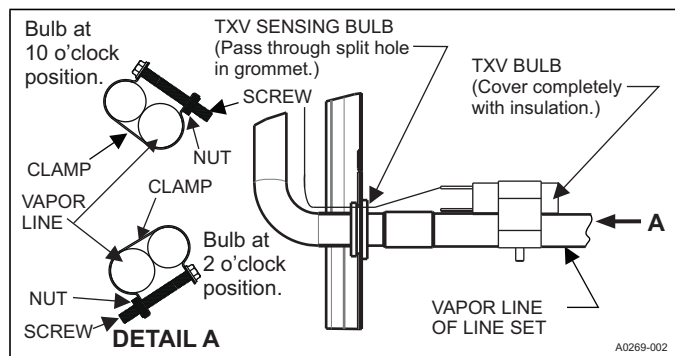

FIGURE 10: Proper Bulb Location
- a. If possible, install the temperature bulb on a horizontal run of the vapor line. Ensure that the bulb is installed at a 10 o'clock or 2 o'clock position. See Figure 10.